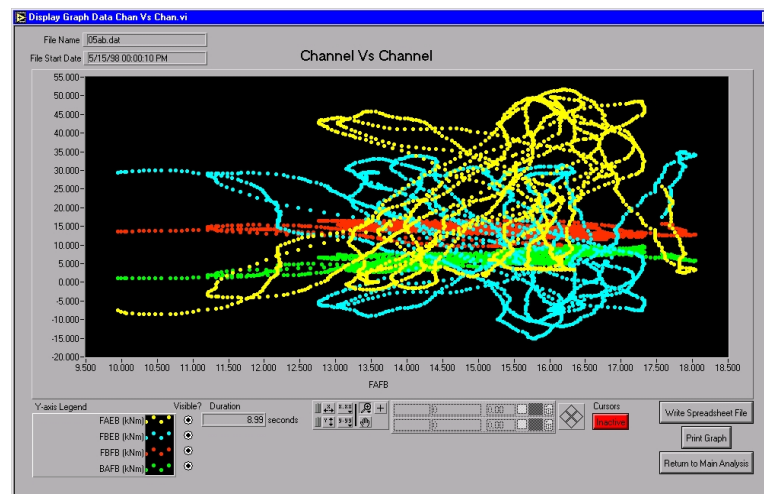

Figure 3-37. Channel Versus Channel Plot Showing Four Strain-Gauge Channels Plotted Against a Fifth Strain-Gauge Channel.
Four different kinds of two-dimensional (XY) plots can be displayed, each with one to four channels per plot, and they can be interactively manipulated. The four post-processing displays are Statistic versus Time, Channel versus Time, Statistic versus Statistic, and Channel versus Channel. An example of a Channel versus Channel plot, with four channels displayed, is shown in Figure 3-37.